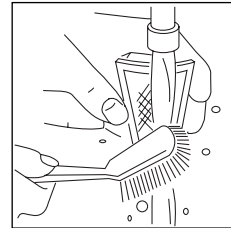

Fig.1
- Remove the filter and wash it with water fig.1 (refer to pag 5 "Removing the scale filter").
- Rinse under a tap whilst brushing with a soft brush (fig. 1).